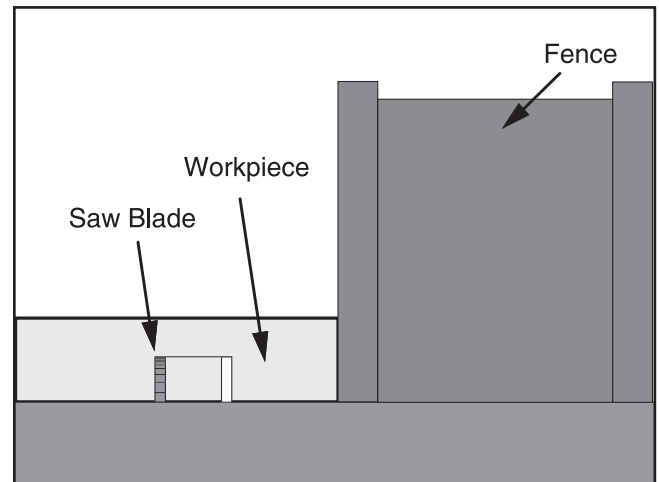

Figure 29. Single-blade dado second cut.
8. Re-adjust the fence so the blade is aligned with the other edge of the intended dado channel (**Figure 29**).